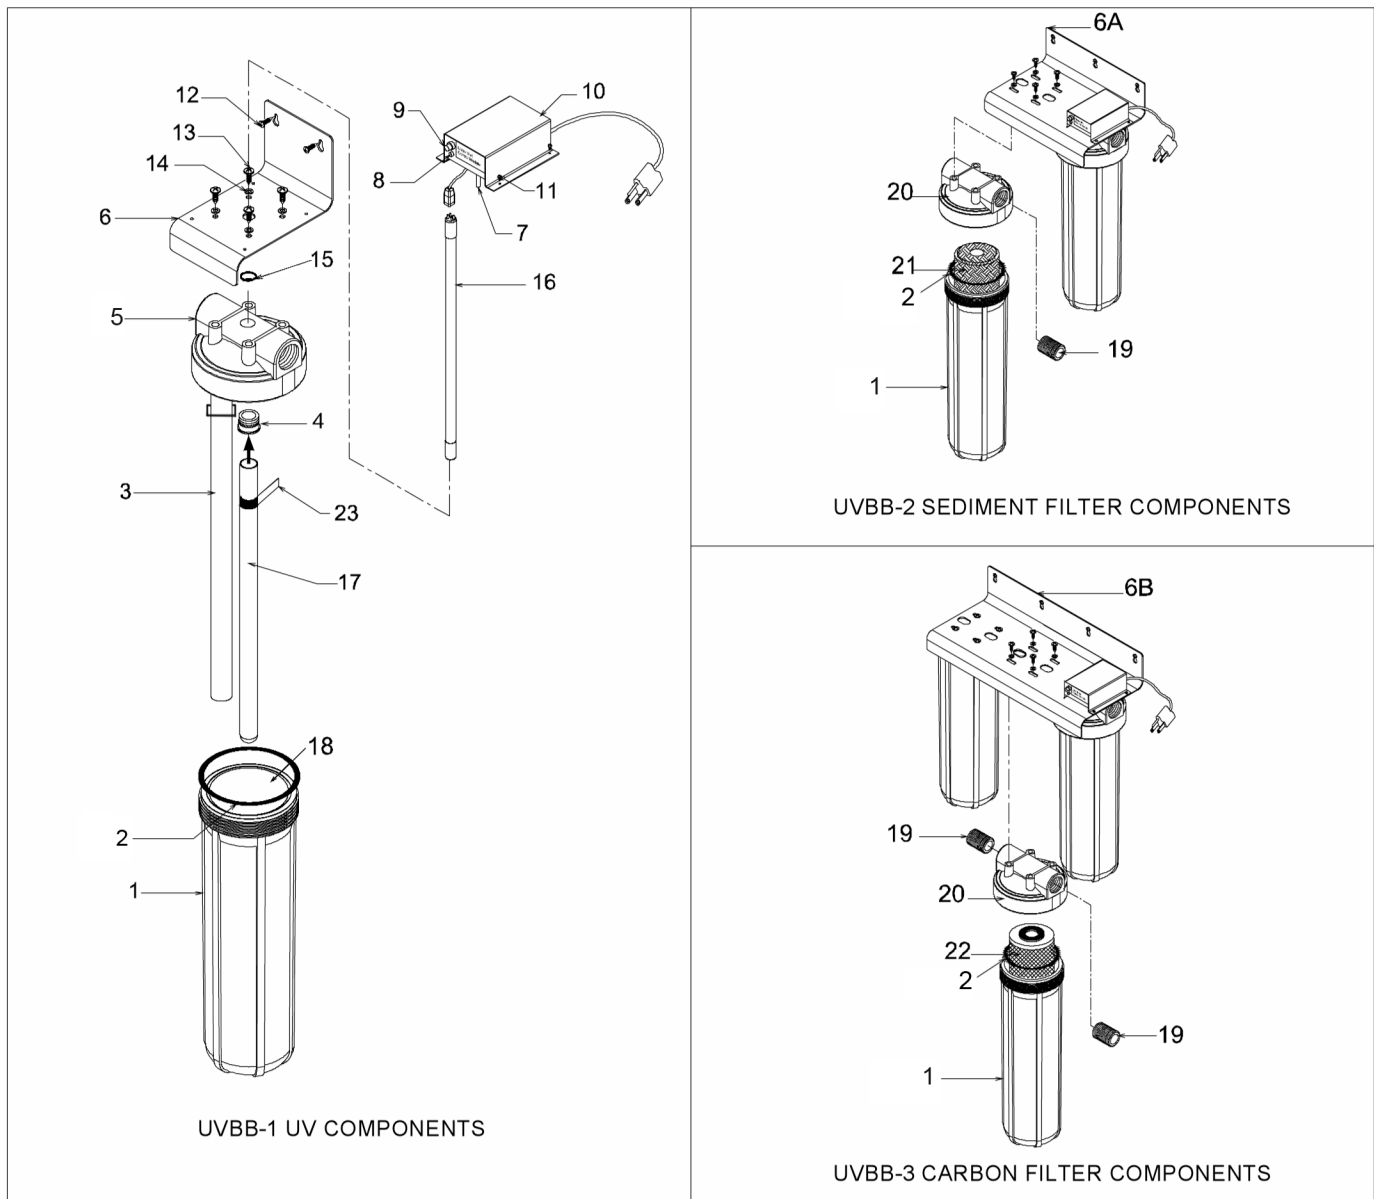

Figure 3 Exploded Schematic, UV UVBB Series
NOTE: All Items refer to Figure 3.
8. **For UVBB-2 and UVBB-3 Models only:** Remove Sump (Item 1) from Filter Head (Item 20). Install Filters (Items 21 and 22) as shown in Figure 3. Install sump onto filter head.
CAUTION: Verify that inlet and outlet ports are connected to appropriate inlet/outlet pipes (see Figure 3).